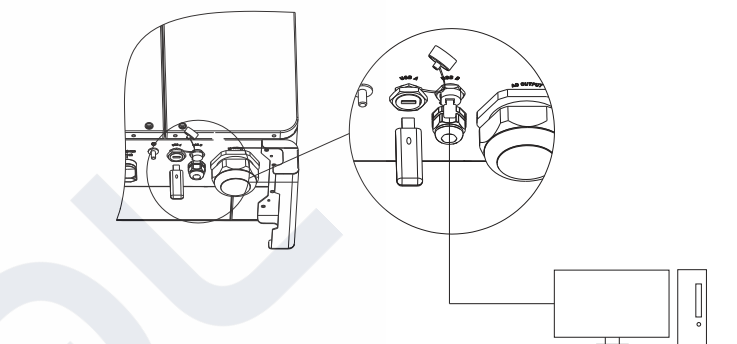

Fig 6.8A
- 2> As shown in Figure 6.8A, plug the USB to WIFI dongle to USB_A port, the indicating LED will lit up.